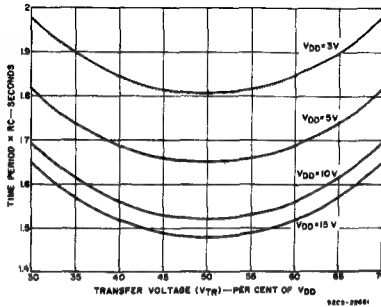

Fig. 3 - Discrete RC-oscillator time period as a function of transfer voltage.
Equation (1) shows that the period of the multivibrator, T, is sensitive to changes in V_{DD} , as illustrated by the graph of time period, T, vs transfer voltage as a function of V_{DD} in Fig. 3. In addition to the strong dependence of actual time period on the V_{DD} chosen, the graph also illustrates that, for a given V_{DD} , a full transfer voltage spread of 30 to 70 per cent of V_{DD} (unit-to-unit worst-case variations) yields a change in time period of about 10 per cent from the nominal 50-per-cent transfer-voltage percentage values.